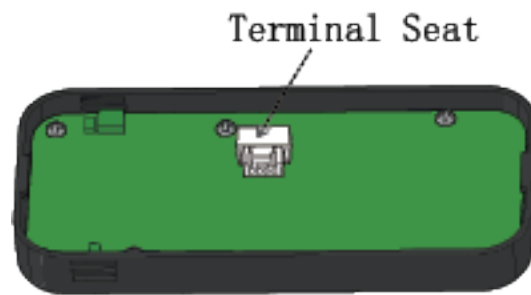

Figure 2
5. Connect the smaller end of the Controller cable to the terminal connector as shown in Figure 2 and pass through the other end of the cable through the reserved cutout in Step 3.